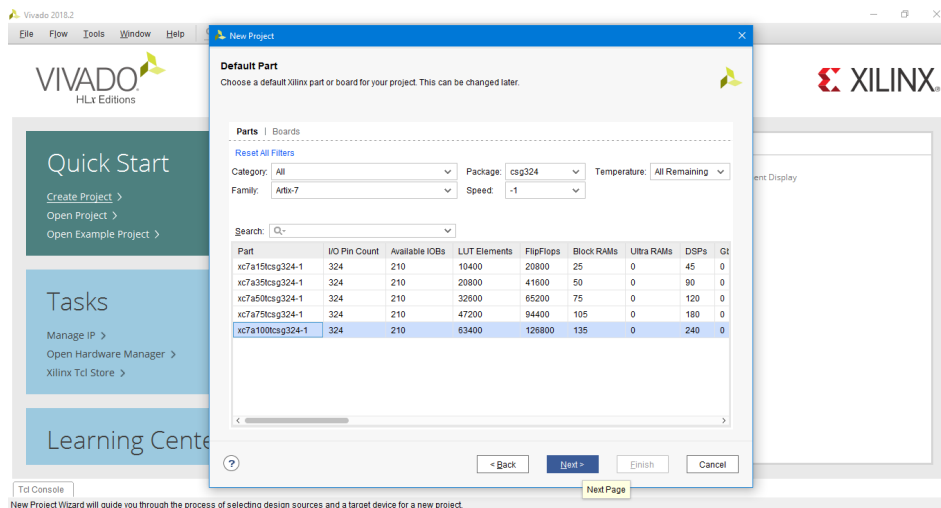

Fig. 2.4: Default Board Dialog Box
4. A *Default Part* dialog box will appear. Select the same family, package and speed of the board. Then, from the parts shown select *xc7a100tcsq324-1*. (Fig. 2.4.) Or select the *Boards* tab and it will display a list of boards. Select the board Nexys A7 100T and Click *Next* to Continue.